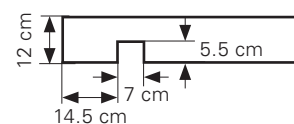

Fig. B5.14
2. Cut out recess area (5.5 x 7 cm) 14.5 cm from the end of the timber for supporting the End Guardrail. (Fig. B5.14)